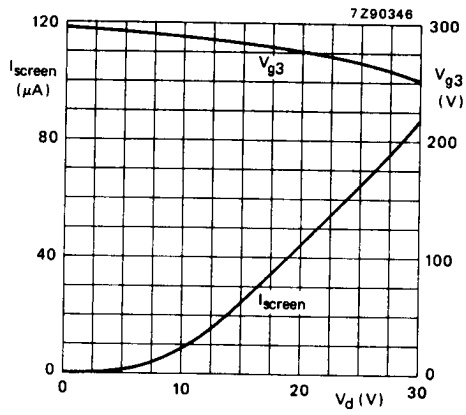

Fig. 5 Screen current (I_{screen}) and focusing voltage (V_{g3}) as a function of grid drive voltage (V_d); typical curves.
4. An actual focus range of approx. 50 V should be provided on the front panel. V_{g3} decreases with increasing grid drive (see also Fig. 5).
5. Intensity control on the front panel should be limited to the maximum useful screen current (approx. 80 μA ; see also Fig. 5). It is to be adjusted either by the grid drive (up to 30 V) or for maximum acceptable line width. The corresponding cathode current or $I_{g2,g4,g5}$ (up to 500 μA) depend on the cut-off voltage and cannot be used for control settings.